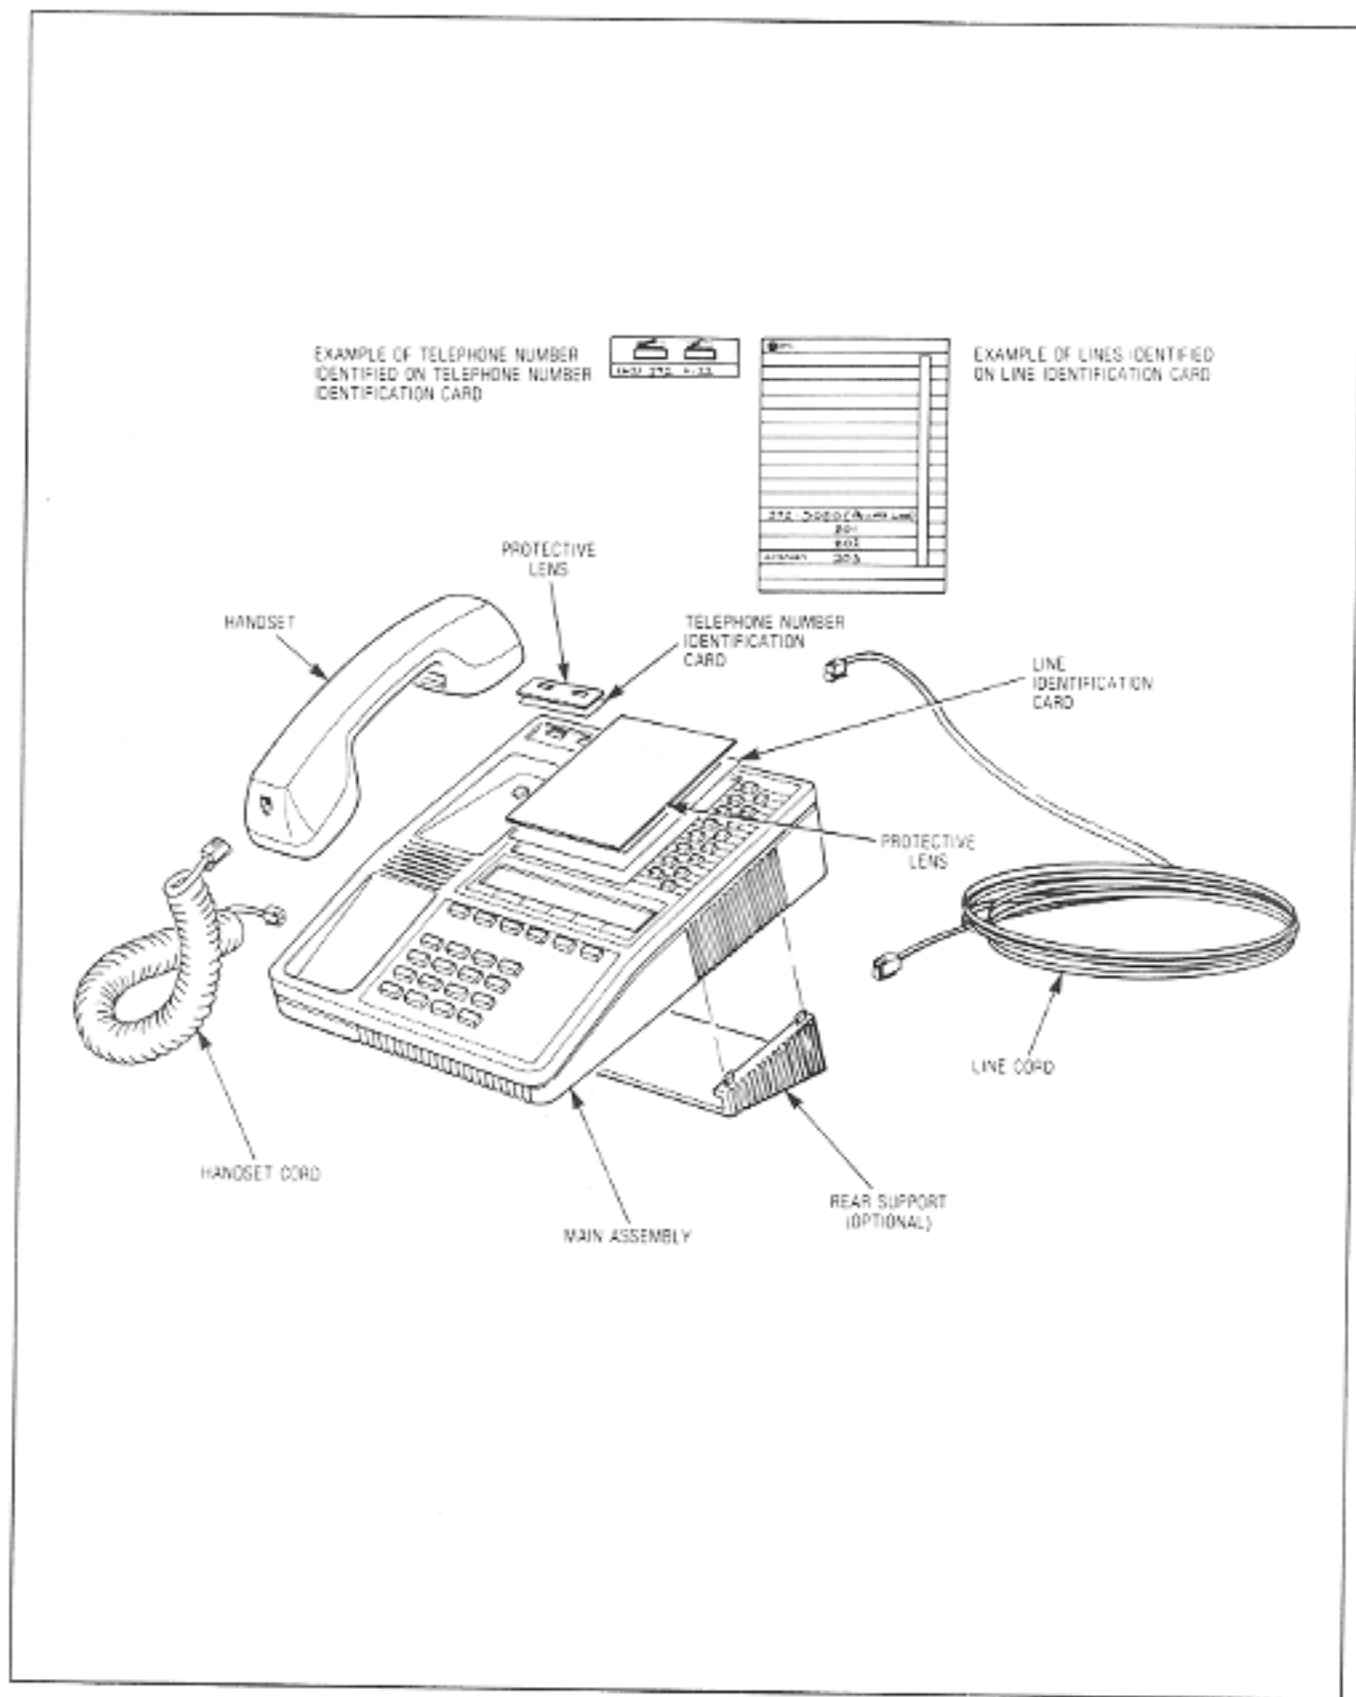

Fig. 1-1 SUPERSET 4 Assembly
1. Refer to Fig 1-1. Assemble the rear support to the SUPERSET (if required) by engaging the support mounting lugs in the SUPERSET base mounting holes, and press the two parts together.